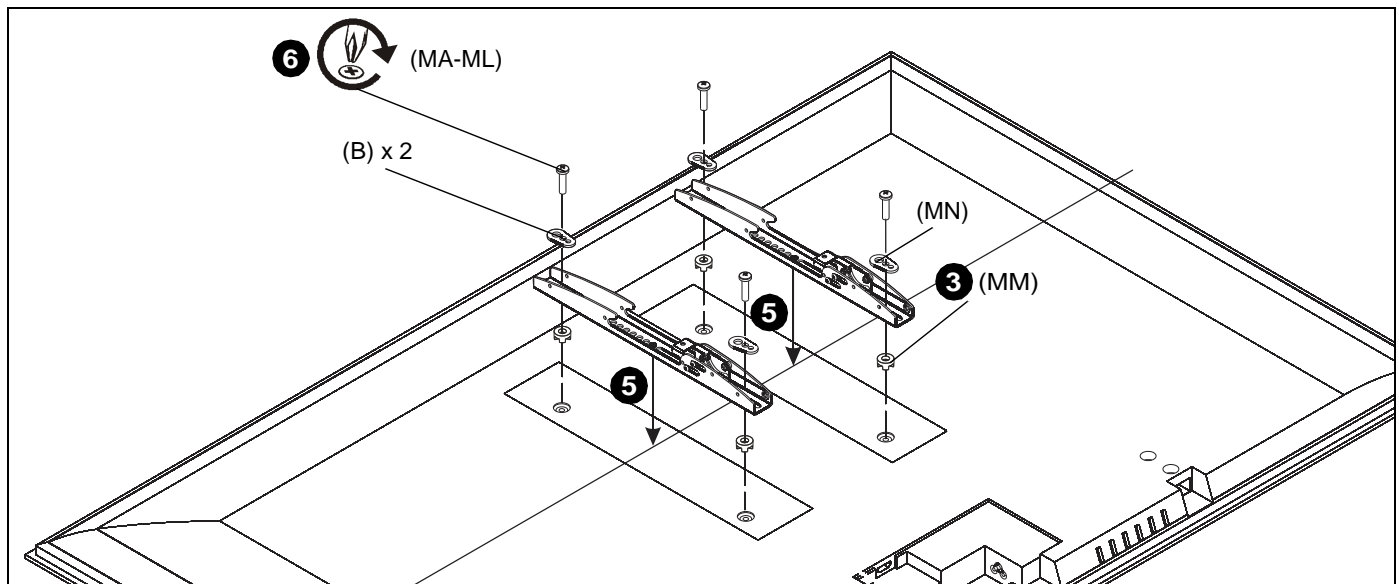

Figure 5
2. Select screw *diameter* by examining hardware (MA-MK) (4mm, 5mm, 6mm or 8mm) and comparing with mounting holes on display. (See Figure 5)
3. Select spacers: (See Figure 5)
- If mounting holes are not recessed and both uprights (B) can lay flat against display, then no spacers are required.
- If mounting holes are recessed, or if protrusions prevent uprights (B) from laying flat, then spacers (ML or MM) must be used.
4. Select screw *length*: (See Figure 5)
- Using your hand, insert **SHORTEST** length screw of selected diameter (MA, MD, MG or MJ) through universal washer (MN), uprights (B),
- NOTE:** Universal washers (MN) are not needed if using M8 button head cap screws (MJ, MK or ML).
5. Place uprights (B) on display, ensuring: (See Figure 5)
- Center of uprights (B) are as close to the center of the back of display as possible after being installed. Center of bracket is indicated by the diamond-shaped hole.
6. Use selected screws and spacers to install two interface uprights (B) to back of display. (See Figure 5)